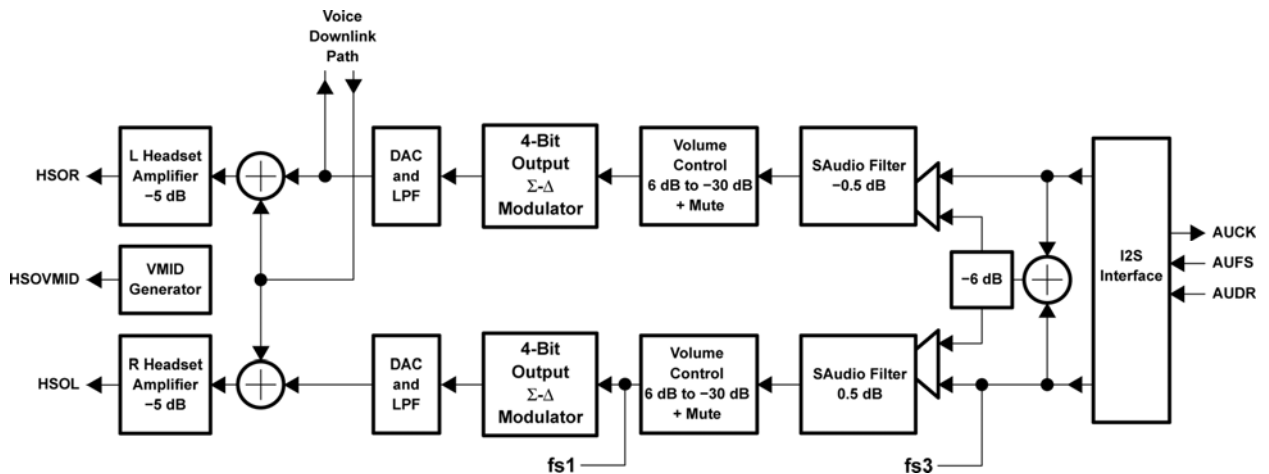

Figure 8: Stereo Audio Path
- Figure 8: Stereo Audio Path 14